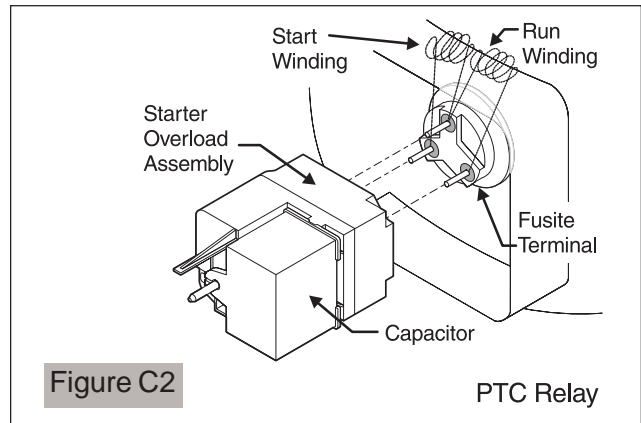

Figure C2
7. If ohm readings are out of range, install new Starter/Overload Assembly. (See Figure C2)